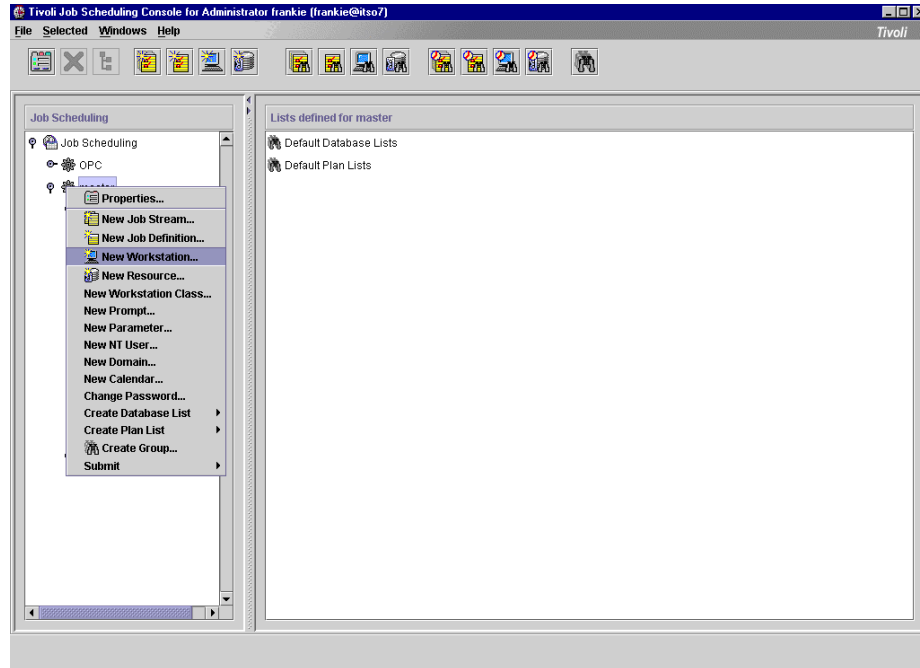

Figure 205. Creating Xagent workstation
1. From the main JS Console window, either, from the top toolbar, select the **New Workstation** icon and continue from Step 2 below, or, from the main JS Console window, right-click on **TWS7.0**, and select **New Workstation** from the drop-down menu. This is shown in Figure 205.